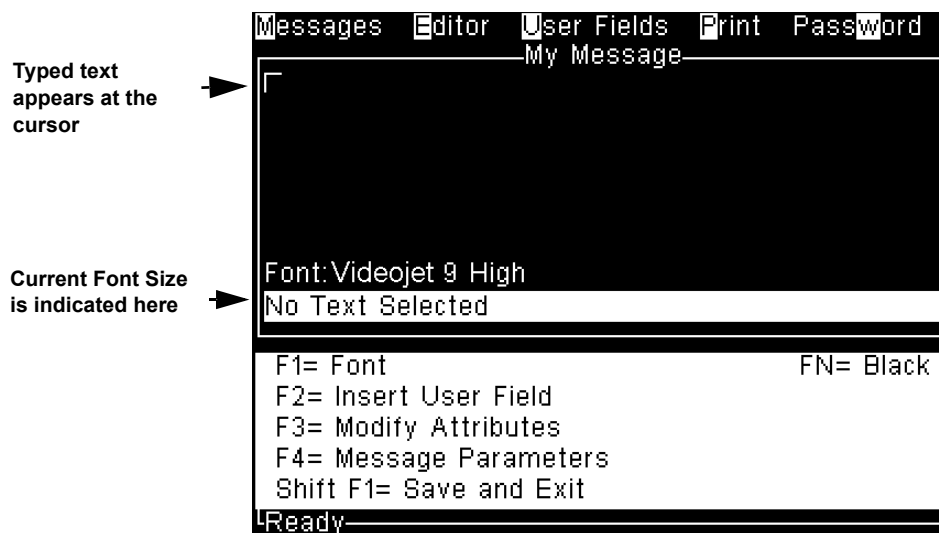

Figure 5-3: Message Editor Window
- 5 Press Enter to open the Message Editor window (Figure 5-3).